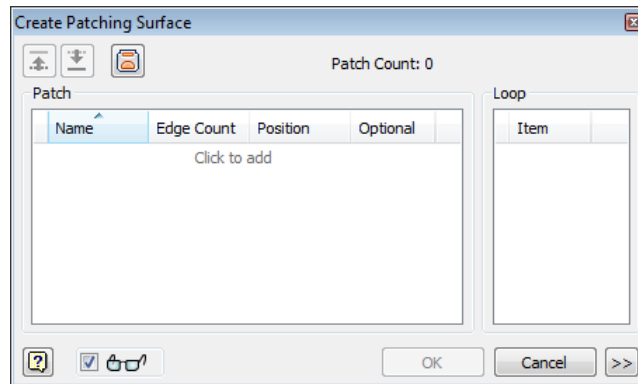

*Figure 19-73 The workpiece created*
3. Choose the **OK** button from the dialog box; the workpiece is created, refer to Figure 19-73.